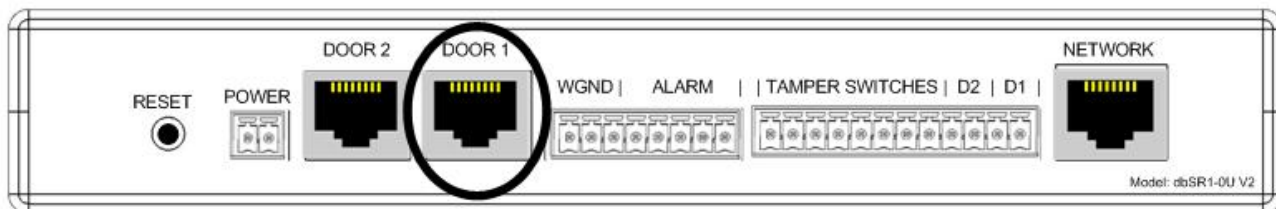

Figure 12
- Connect the CAT5 cable to the port labeled "DOOR 1" on the back of the Control Unit as shown in Figure 12.